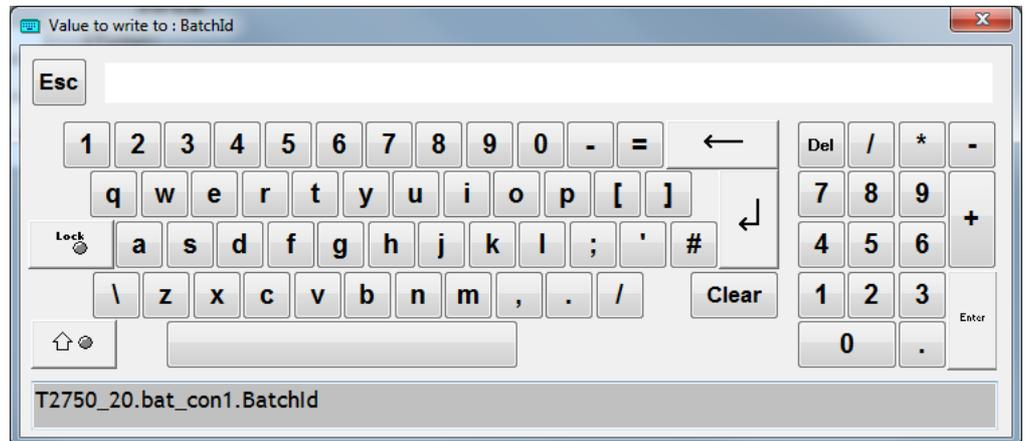

Figure 7 Batch ID Editor Keyboard
1. Click in the Batch ID field to initiate a change to the Batch ID. Depending on the HMI being used and its setting, a keyboard window may be displayed as shown in Figure 7.